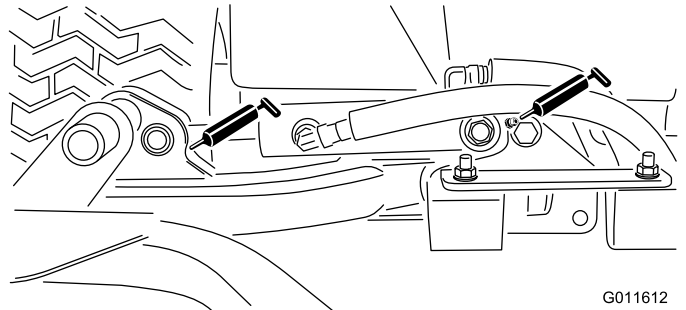

Figure 28
- Cutting unit lift-arm cylinders (2 each) (Figure 28)
- Lift-arm pivots (1 each) (Figure 28)